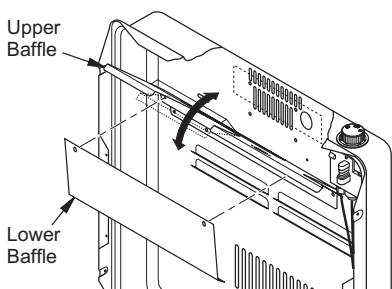

Figure 4: Removing knockout and attaching Lower Baffle
4. Remove knockout plate from cabinet back panel (see Figure 4).
5. To remove knockout plate from baffle, snip two small tabs in front of plate. Move plate up and down as shown in Figure 4 until tabs in back snap apart. Discard knockout.
6. Locate new lower baffle from packaging. Attach to upper baffle with 2 #10 screws as shown in Figure 4.